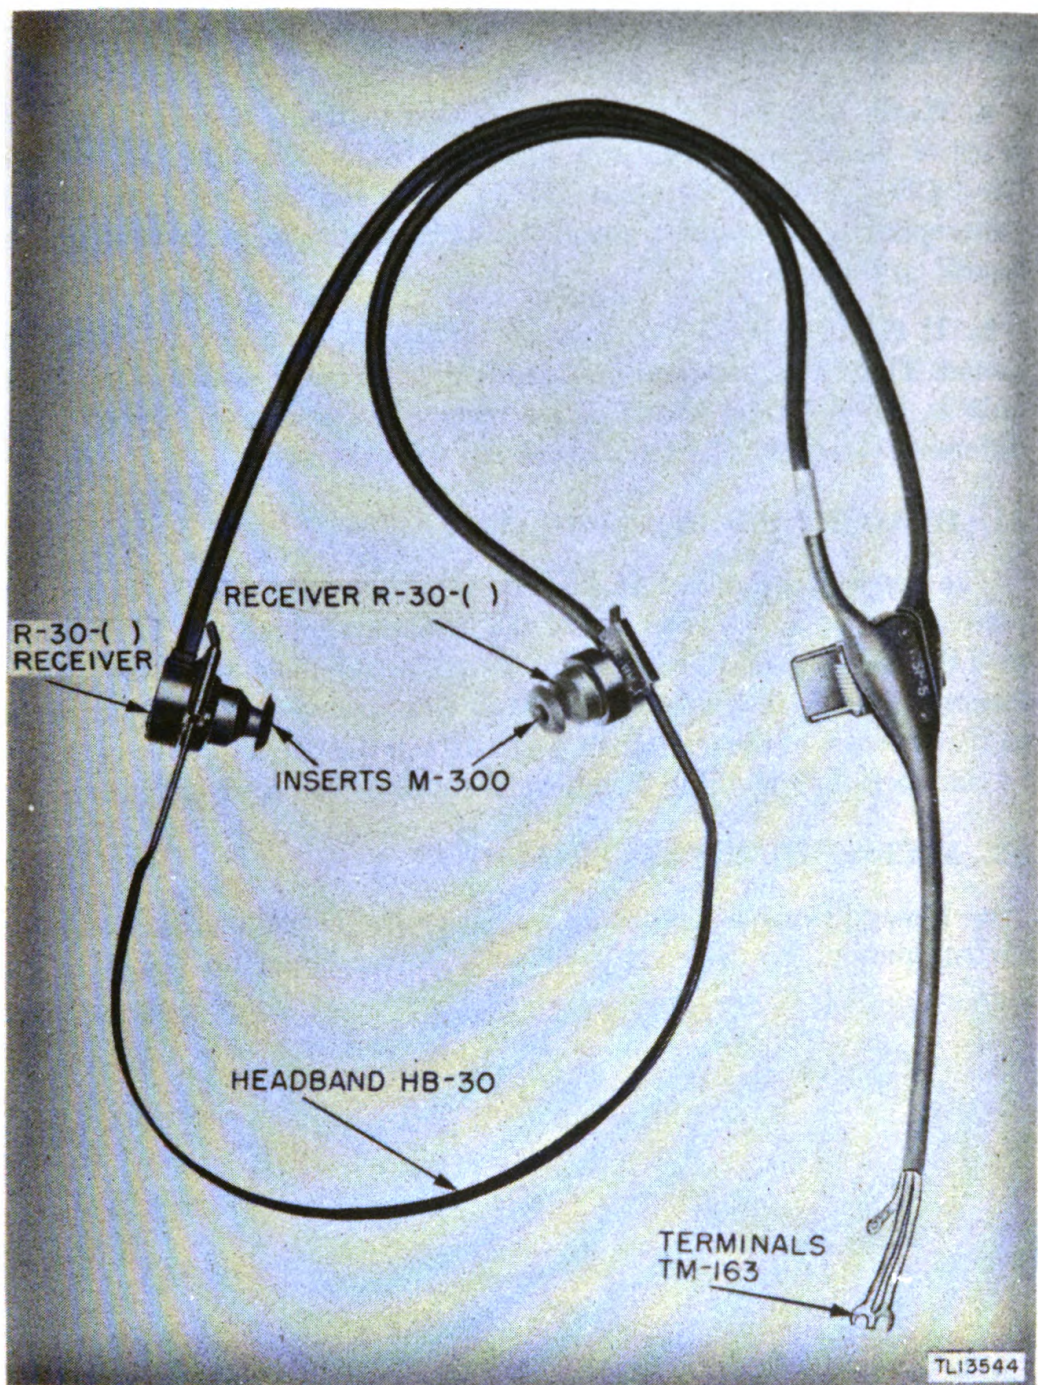

Figure 13. Headset HS-30-().
11. HEADSET HS-30() (fig. 13).
The headset is lightweight and close-fitting. Special soft rubber earpieces snapped to the receivers of the headset are designed to fit snugly into the ear cavities. These earpieces exclude outside noises and aid in receiving weak signals. The headband is a thin, steel band, adjustable to the contours of the operator's head. Attach the clip on the headset cord to the operator's clothing to relieve the pull of the cord (fig. 13).